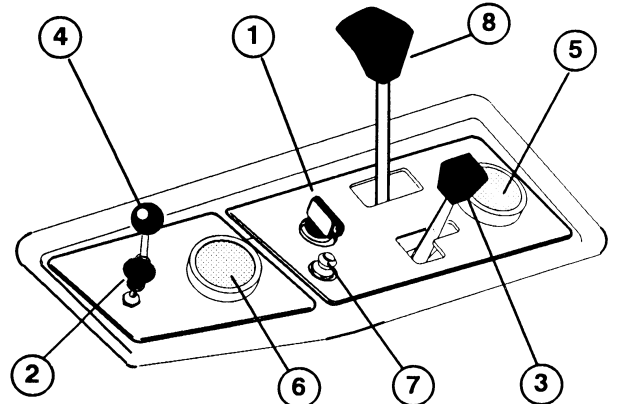

Figure 6
**Ignition Switch** (Fig. 6)—The ignition switch, which is used to start and stop the engine, has three positions: OFF, ON and START.
**Choke** (Fig. 6)—To start the engine, close the carburetor choke by pulling the choke control outward to the FULL position. After the engine starts, regulate the choke to keep the engine running smoothly. As soon as possible, open the choke by pushing it inward to the OFF position.
**Throttle** (Fig. 6)—The throttle is used to regulate engine speed. Moving the throttle forward increases engine speed—FAST; rearward decreases engine speed—SLOW.
**Spray Wash Control** (Fig. 6)—Pull the handle upward to activate the roller spray wash system. Move the control knob up or down to adjust spray rate to keep rollers free of debris.
**Hour Meter** (Fig. 6)—The hour meter registers accumulated hours of engine operation. Use the hour meter to determine intervals for service maintenance and lubrication.
**Water Pressure Gauge** (Fig. 6)—Registers supply water pressure in the system. Also acts as a interlock switch preventing the water pump from starting if water pressure is below 138–193 kPa or stopping the water pump if the water pressure drops below 48–89.6 kPa. Check the gauge frequently to monitor the water pressure.
**Circuit Breaker Reset Button** (Fig. 6)—a push button to reset breaker, after correcting malfunctions in the electrical system. The button also serves as a switch to interrupt power to the relays.
**Spacing Control Lever** (Fig. 6)—Moving the control away from handle increases the aerating ground speed and distance between holes. Moving the control toward the handle decreases aerating ground speed and distance between holes. The setting will be overridden when the machine is shifted to the transport position.